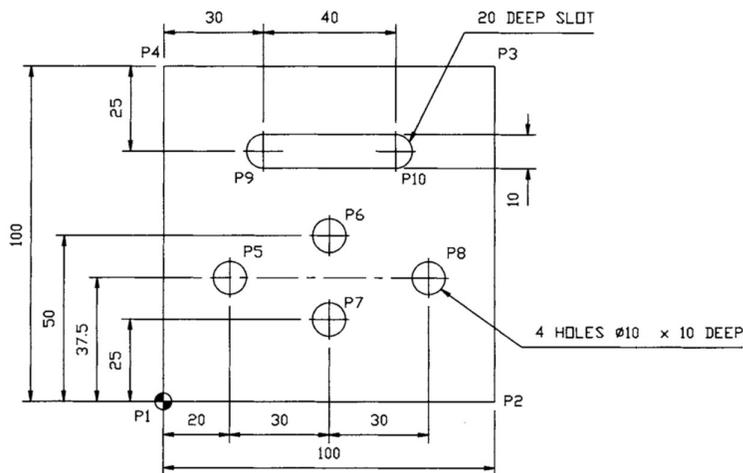

Figure Q5.7 Mild steel component
10. (a) For the component drawing below (Fig. Q5.7), identify: (16)